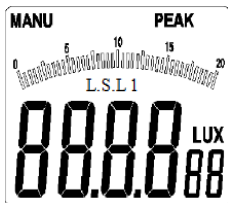

Fig. 3-1-2B
3. Give a long (1 second) press on the key "REL/PEAK" to enter the peak value measurement mode. Then the word "PEAK" appears on the upper right of the screen while the word "MENU" appears on the upper left of the LCD screen (as shown in Fig.3-1-2B);